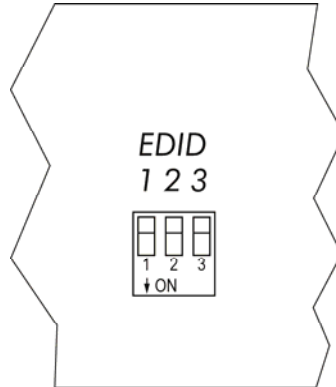

Figure 10: EDID DIP Switch (Back Panel)
The EDID settings of any display can be relayed to any source by means of a DIP switch located on the back panel of the Matrix Switch (Figure 10). The DIP switch has three contacts (1, 2, 3), each of which can either be set up (OFF) or down (ON).